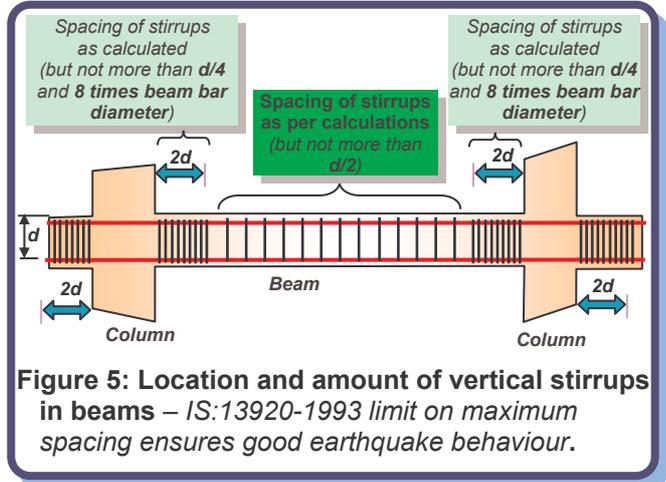

Figure 5: Location and amount of vertical stirrups in beams – IS:13920-1993 limit on maximum spacing ensures good earthquake behaviour.
- (d) For a length of twice the depth of the beam from the face of the column, an even more stringent spacing of stirrups is specified, namely half the spacing mentioned in (c) above (Figure 5).